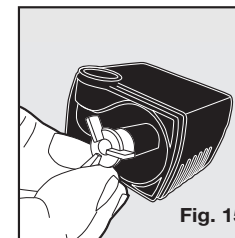

Fig. 15
- Once the stator is removed, remove the impeller (white, 3-bladed propeller). The impeller is held in place by a magnet, simply use a fingernail to get underneath a blade and lift out (**Fig. 15**).